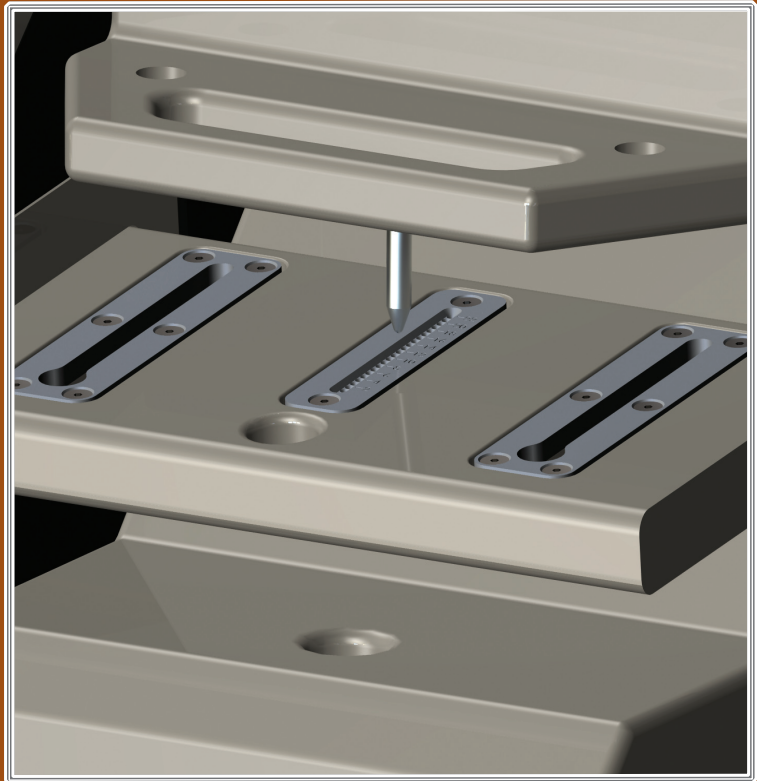

FIGURE 11 - SPIKE POSITION IN THE PROPAGATION DELAY DETENT
- Refer to table Number 5, the Upper Midrange Module Spike Detent Location, to determine the proper location of the rear spike in its detent (see Figure 11), noting that the position will be different from the Lower Tweeter/Midrange Module.
- With the front spikes pointing down, carefully lower the Upper Midrange Module into the array. There are two front tracks located on top of the Lower Tweeter/Midrange Module; position the front spikes in these tracks. Rest the rear spike in the proper detent (See Figure 11) as determined in the previous step. Make sure that the front spikes stay in the front track so the paint surface does not get scratched.